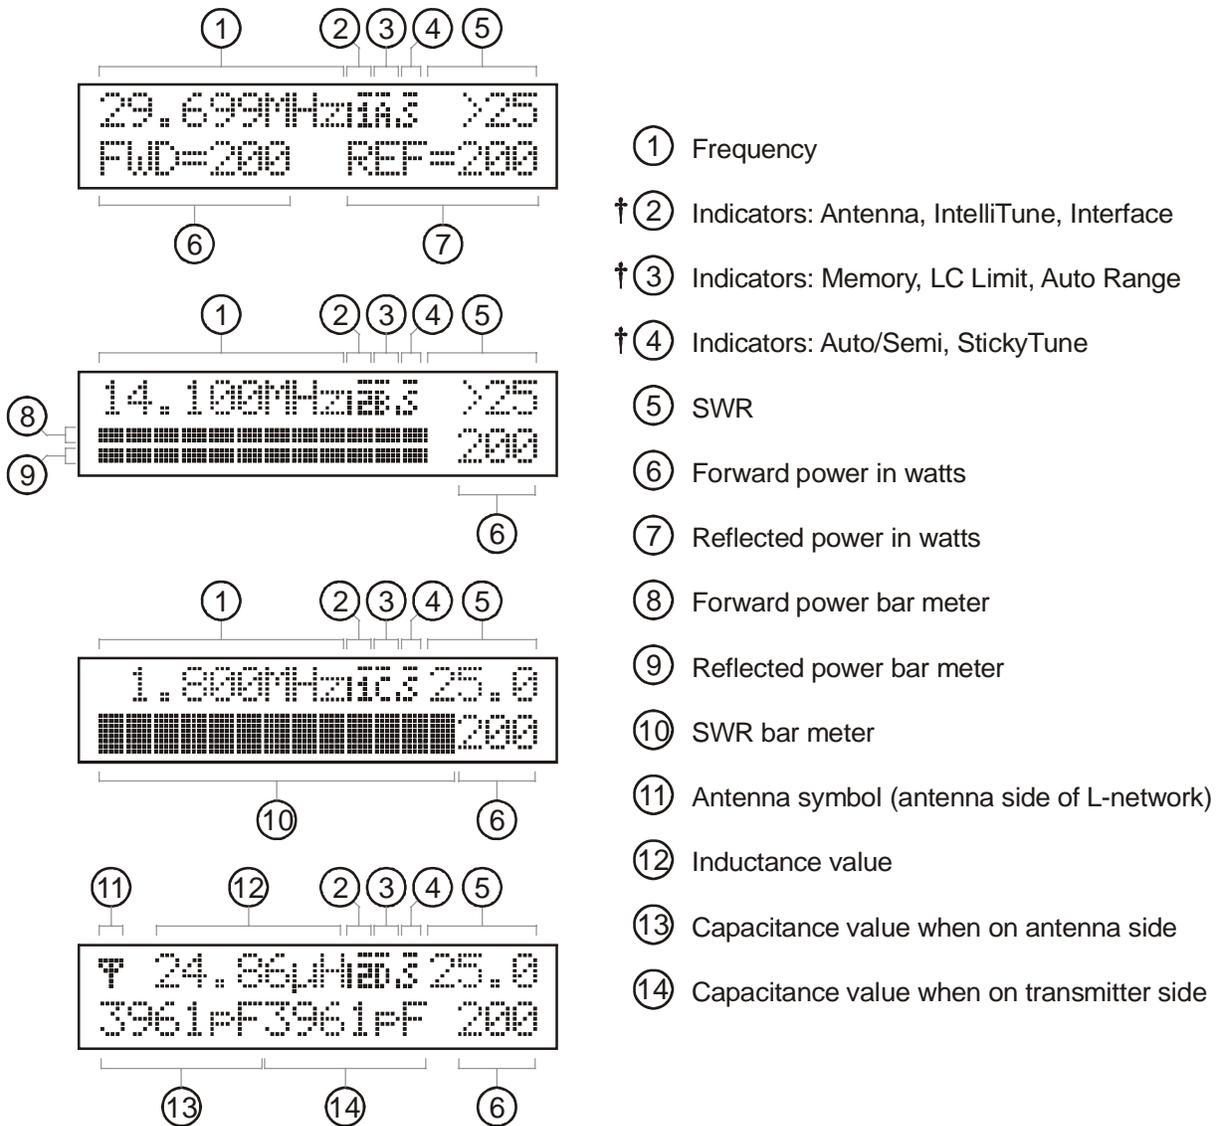
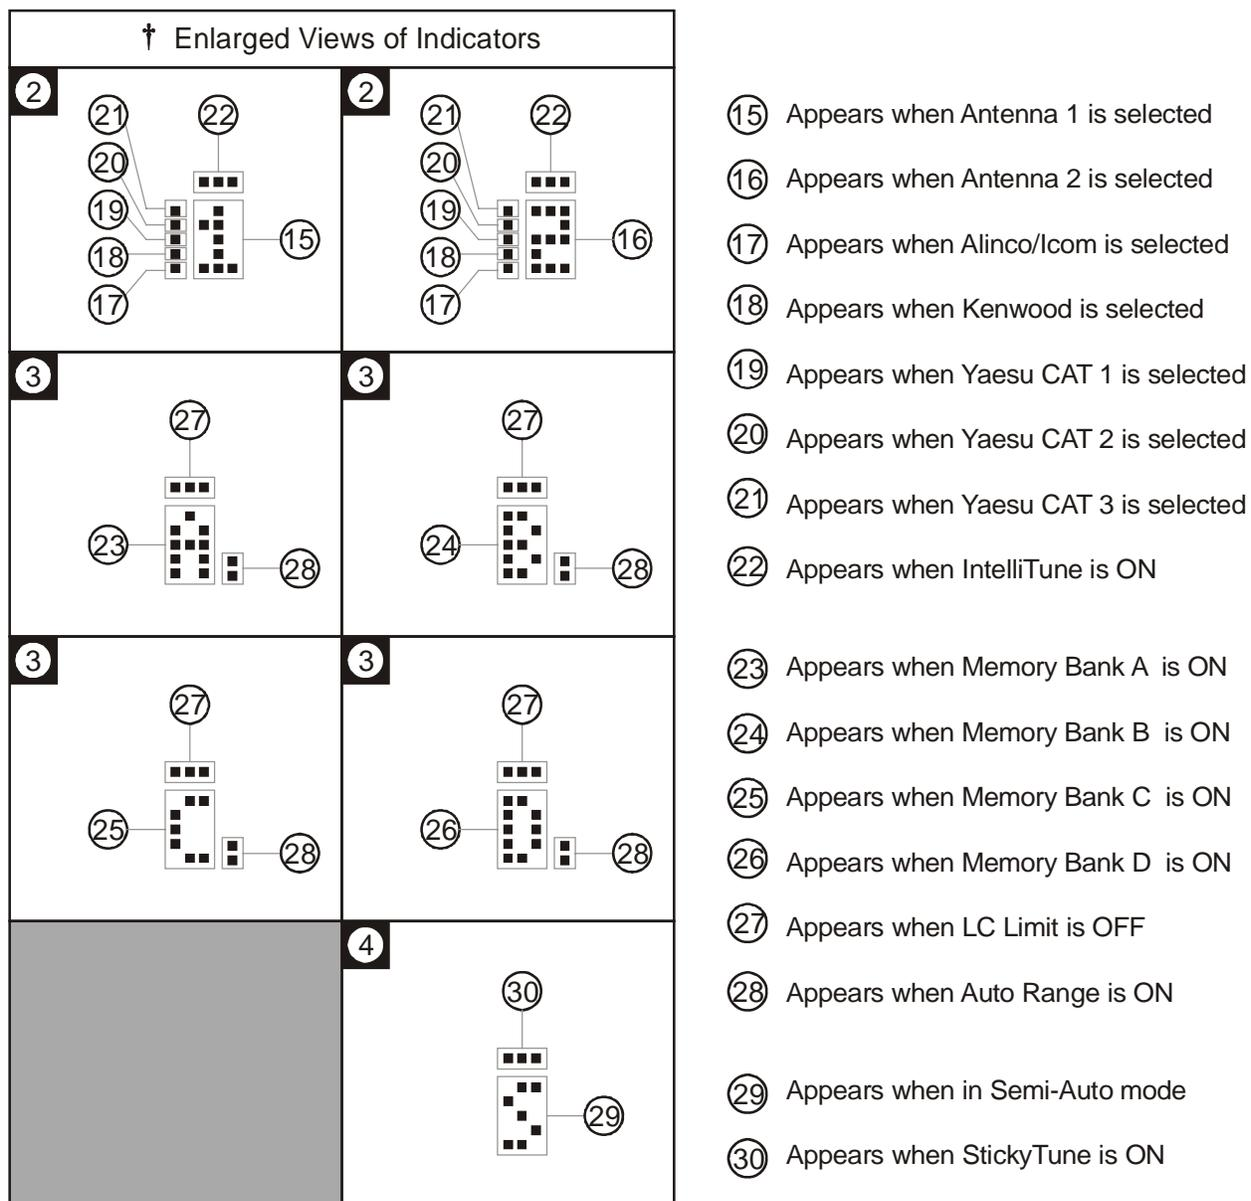

Figure 14. Main Mode Menus Display.
Figure 15. Tuner Indicators.
- **LCD Display:** A 2-line by 16-character alphanumeric display. It displays the tuner's various menus and status. The display contrast can be adjusted by the LCD contrast control on the front panel. Below the display are the SWR and power bar meter scales. Refer to Figures 14 and 15 for descriptions of the various displayed information.
Pressing [TUNE] and [ANT] simultaneously toggles between automatic and semi-automatic tuning mode. In automatic mode, the tuning routine is automatically started when at least two watts of power is applied and the SWR is a preset amount above the preset target SWR. In semi-automatic mode, the tuning routine starts only when the [TUNE] button is pressed for 0.5 to 2 seconds. The Auto/Semi indicator on the main display indicates the selected mode. Refer to Figures 14 and 15 for the on-screen Auto/Semi indicator.
The main mode menus show various tuner settings and status. There are four main mode menus arranged in a “wrap-around” structure. When powered on, tuner operation starts with the main menu that was last used. Within each main menu, press the [MODE] button briefly to view the next main menu. Press and hold the [MODE] button for two seconds to enter the setup mode (see below). Various tuner indicators are shown on all four main menus: Antenna 1/2, IntelliTune™, Radio Interface, Memory, LC Limit, Auto Range, Auto/Semi, and StickyTune™. Refer to Figures 14 and 15 for details on the displayed information.
The power meter can be set to auto range. Auto range automatically sets the meter scale according to the input RF power to the tuner. Forward power greater than 20 watts automatically sets the meter to the high power range. Forward power less than 15 watts automatically set the meter to the low power range. When auto range is on, a two-dot vertical segment appears on the on-screen tuner indicator. Refer to Figures 14 and 15 for the on-screen Auto Range indicator.
Various tuner indicators are shown on the main menus to indicate tuner status. Refer to Figures 14 and 15 for locations of these indicators. The number enclosed within ( ) is the item number of Figure 15.
- **Antenna:** A small “1” appears to indicate antenna 1 is selected (15); a small “2” appears to indicate antenna 2 is selected (16).
- **Radio Interface:** One dot appears on the left side of the Antenna indicator to indicate the selected radio interface (17-21). Refer to Figure 15 below.
- **IntelliTune:** When *IntelliTune*™ is ON, a bar appears on top of the Antenna indicator (22).
- **LC Limit:** When LC Limit is OFF, a bar appears on top of the Memory indicator (27).
- **Auto Range:** When Auto Range is ON, a two-dot vertical bar segment appears on the lower left corner of the Memory indicator (28).
- **Auto/Semi:** A small “S” appears to indicate semi-automatic mode (29); nothing appears to indicate automatic mode.
- **StickyTune:** When *StickyTune*™ is ON, a bar appears on top of the Auto/Semi indicator (30).
Allows you to select the meter scale range. In the 20 watts (low) range, the meter full scale is 20 watts (divide the power meter scale by 10). In the 200 watts (high) range, the meter full scale is 200 watts. Auto range automatically sets the meter scales according to the input RF power to the tuner. Forward power greater than 20 watts automatically sets the meter to the high power range. Forward power less than 15 watts automatically set the meter to the low power range. Refer to Figures 14 and 15 for the on-screen Auto Range indicator. Default is 200 watts range.
The memory resolution for non-amateur frequency bands between 160 and 10 meters is approximately 0.2 percent of the lower frequency of each band. There are over 2500 memory locations for each memory bank, and each antenna has four memory banks (A-D). Tuner settings are stored in memory separately for Antenna 1 and Antenna 2 (settings for single-wire antenna are stored as Antenna 1). This provides memory for up to eight different antennas. Refer to Figures 14 and 15 for the on-screen Memory indicator. Defaults are memory banks 1A and 2A ON.
the transmitting frequency, then it calculates the L/C components needed for a match. Then it fine-tunes the component values. If for any reason the tuner cannot calculate the load impedance, it proceeds to yet another method of calculation. If for any reason, this function can be turned off. Refer to Figures 14 and 15 for the on-screen *IntelliTune*™ indicator. Default is ON.
The upper limits of inductance (L) and capacitance (C) are factory-limited according to frequency and maximum power rating; i.e., higher frequencies need less inductance and less capacitance when the L-network is properly tuned. Pressing [C-UP] and/or [L-UP] allows capacitance and inductance to be increased only to these limits. When a selected capacitance or inductance is higher than its allowed limit, and the frequency is changed, that selection is automatically reduced to the value of its limit. These limits are used to prevent matching of extreme load impedance outside the tuner’s specification, which may result in excess voltage and/or current across the tuner’s components. This setting is not stored in non-volatile memory and reverts back to the default when the tuner power is turned off. Refer to Figures 14 and 15 for the on-screen LC Limit indicator. Default is ON.